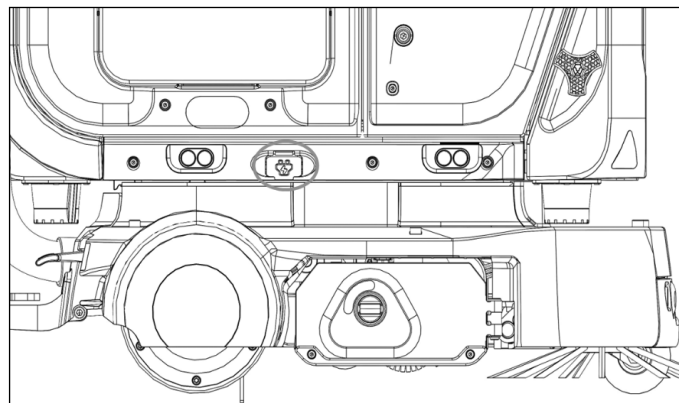
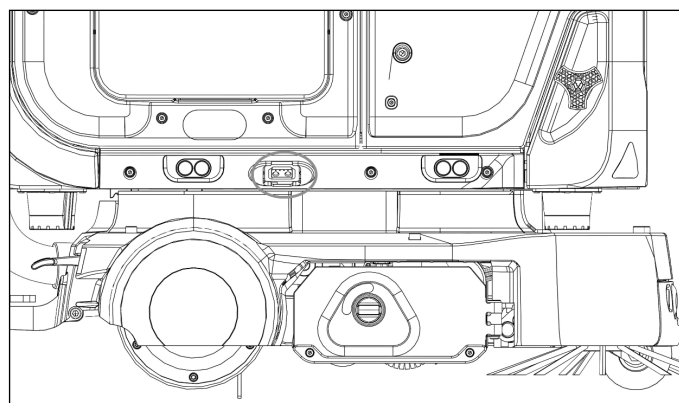

Figure 56
Figure 57
1. Lift the rubber cover on the manual charging port **(Fig. 56)**, **(Fig. 57)**.